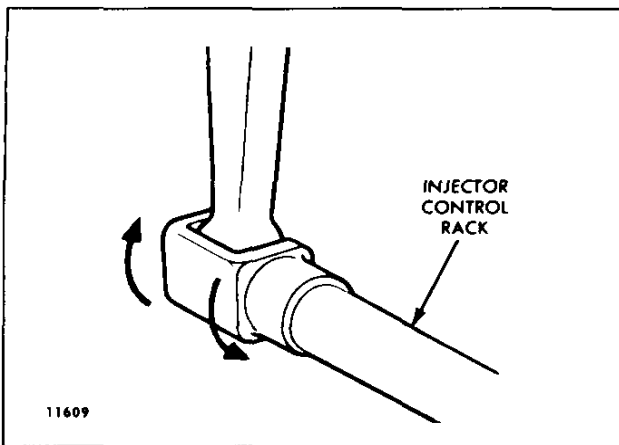
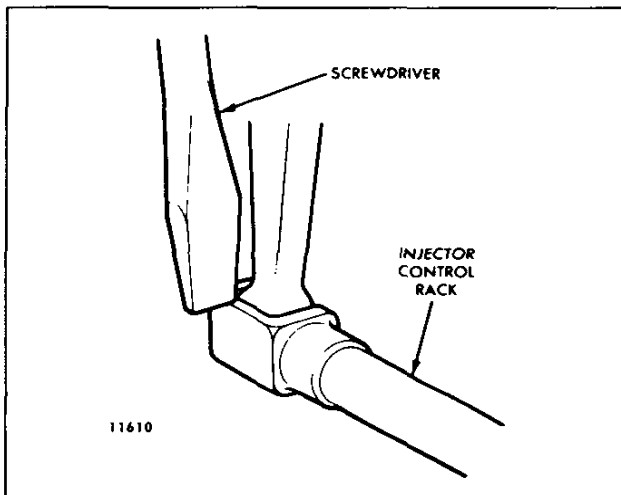

Fig. 3 - Checking Rotating Movement of Injector Control Rack
Fig. 4 - Checking Injector Control Rack Spring
4. To be sure of proper rack adjustment, hold the stop lever in the *run* position and press down on the injector rack with a screwdriver or finger tip and note "rotating" movement of the injector control rack (Fig. 3). Hold the stop lever in the *run* position and, using a screwdriver, press downward on the injector control rack. The rack should tilt downward (Fig. 4) and, when the pressure of the screwdriver is released, the control rack should "spring" back upward.